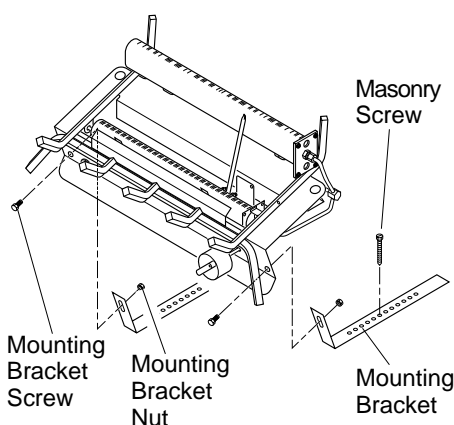

Figure 12 - Attaching Heater to Fireplace Floor
2. Locate mounting brackets, bolts, and nuts in hardware package. Attach mounting brackets to heater base (see Figure 12, page 11). Attach nuts finger tight.